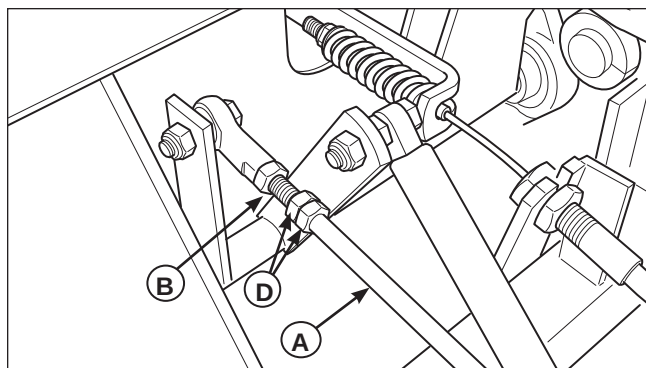

Figure 33. Neutral Adjustment (RH side shown)
2. The locking nuts (**D**, **Figure 33**) are to be used together to turn the rod. Loosen the jam nut that locks against the ball joint (**B**) and turn the linkage rod (**A**) to adjust. If the machine creeps forward, turn the rod **CLOCKWISE** (while standing at the rear of the machine, facing forward), if the machine creeps backward, turn the rod **COUNTER-CLOCKWISE**.